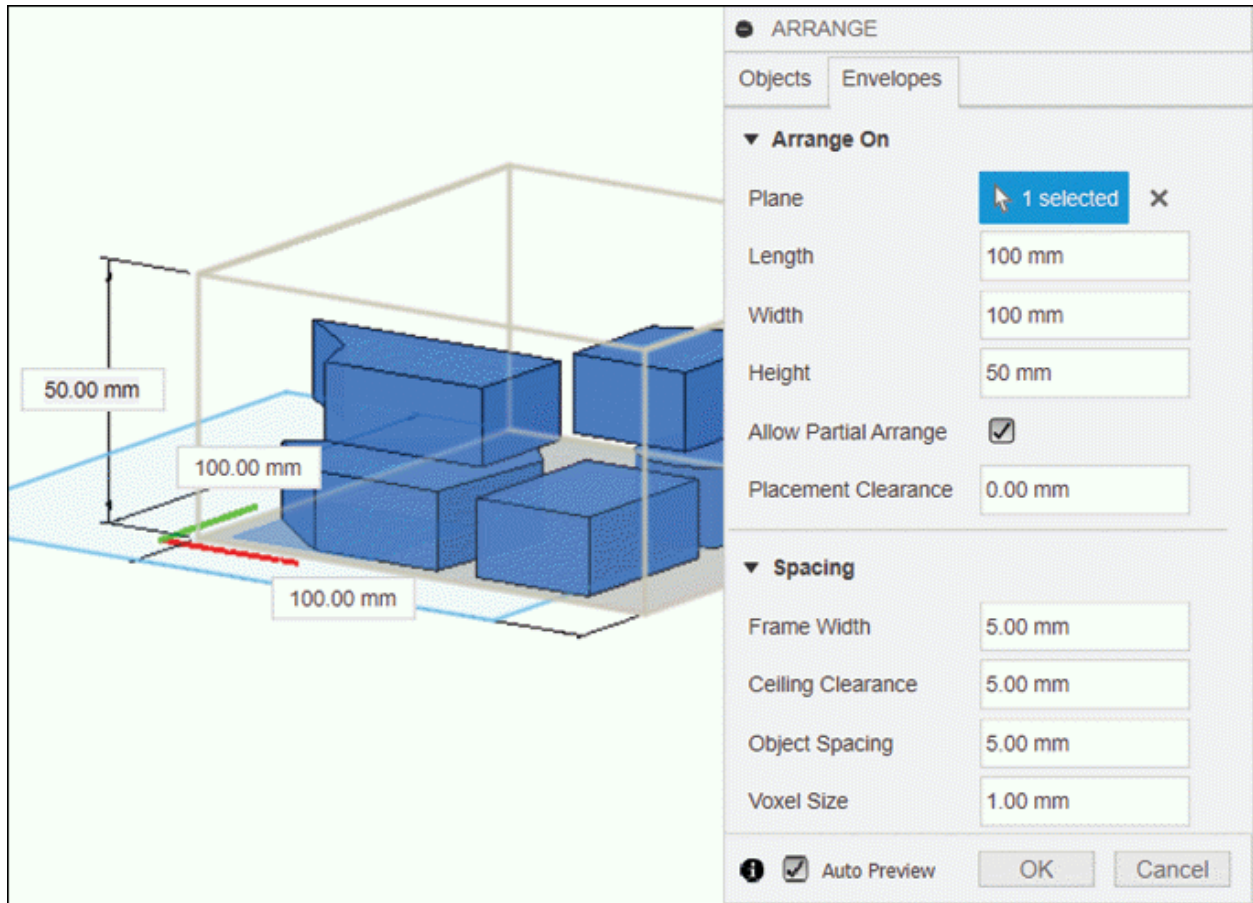

Figure-65. 3D envelope arrangement
- Select desired plane from graphics area and set desired parameters in the **Length**, **Width**, and **Height** edit boxes to define limits of 3D envelope. The components will be arranged automatically in 3 dimension; refer to Figure-65.